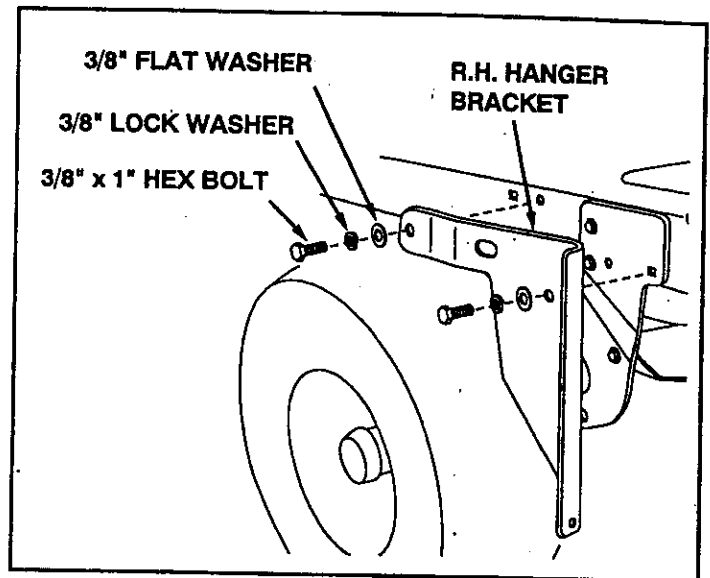

FIGURE 2
NOTE: Bolts should be assembled back into the holes if the hanger brackets (figure 2) are removed from the tractor frame.
- Attach the R.H. hanger bracket to the empty holes on the right side of the tractor frame using two new 3/8" x 1" hex bolts, 3/8" lock washers, and 3/8" flat washers as shown in figure 2. **Tighten.** Repeat for the left side.